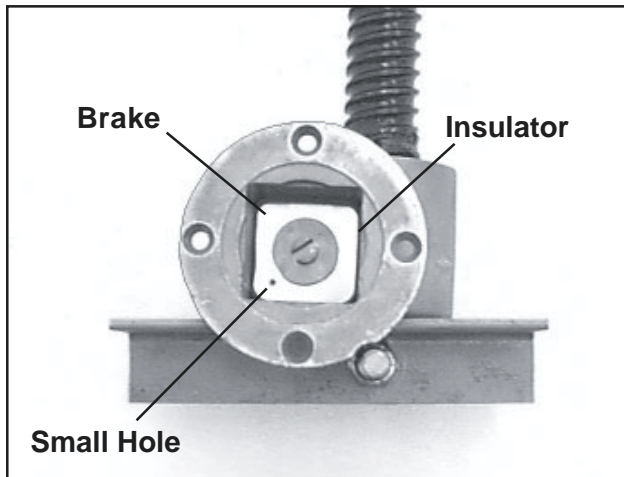

Figure 45. Brake in the Gearbox
4. Place the hook on your paper clip tool into the small hole in the brake, or under one of the corners, and pull the brake and the red rubber insulator out of the gearbox (Figure 45).